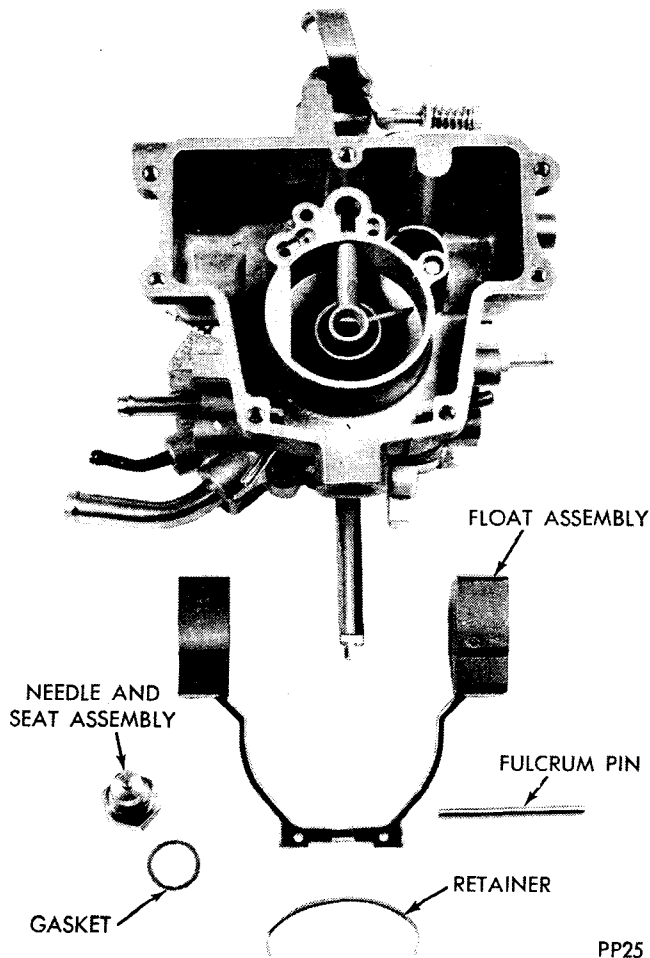
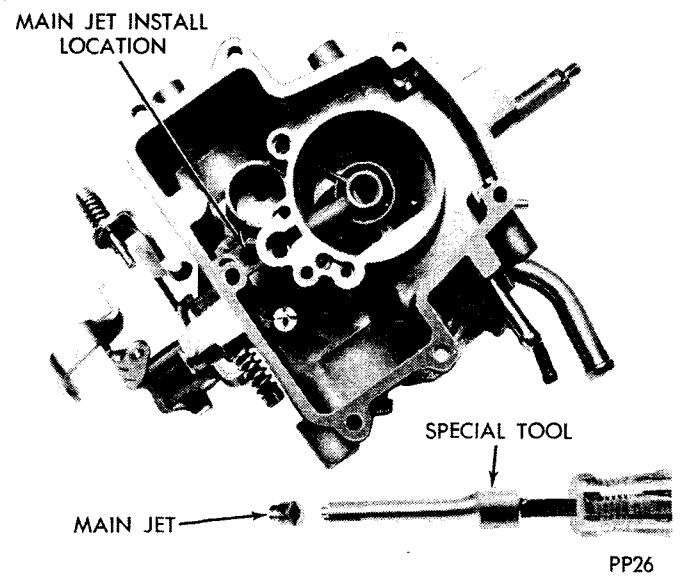

Fig. 15—Removing Float Assembly
Fig. 16—Removing Main Jet
(12) Remove the spring float shaft retainer, float shaft and float assembly (Fig. 15).
(13) Turn the main body upside down and remove the pump discharge check ball and weight.
(14) Remove the main jet with Special Tool Number C-3748 (Fig. 16). A 3/8 inch or wider screwdriver can also be used, but be sure it has a good square blade.